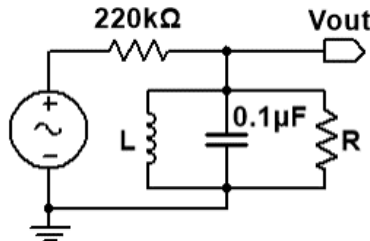

FIGURE 13. Parallel resonator.
**Problem L3.3 - RLC Circuit Resonator.** Construct the RLC resonator circuit shown in Fig. 13. Use the 25-turn inductor, and one of separately-supplied (not in your main capacitor kit)  $0.1\ \mu\text{F}$  capacitors—these capacitors have a yellow head (like those in your kit) but have extra-long leads. In this circuit, the series resistance of  $R_S = 220\ \text{k}\Omega$  is selected to be much larger than the impedance of the tank circuit and you can treat the tank circuit as being driven by a current source.